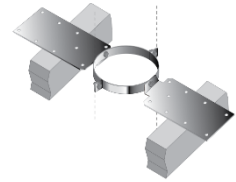

Figure 1
The roof support is supplied as a kit complete with two side plates for fixing to the roof trusses, a band to give lateral support to the chimney as it passes through the roof, and 3 self-tapping screws, which are secured to the chimney through the band to give a load bearing capacity. When the plates are installed above the roof trusses as in Fig.1 the maximum number of pipes, which may be suspended from the roof support is 6 x 1m pipes. When the plates are attached below the trusses as in Fig.2 the maximum number of pipes, which may be suspended is 4 x 1m pipes.
- The band should be lowered down over the top of the Core pipe, and positioned so that the side plates are resting on top of the roof trusses as in Fig.1 or below the roof trusses in the case of Fig. 2. The recommended position is always as per Fig.1 where circumstances allow this solution.